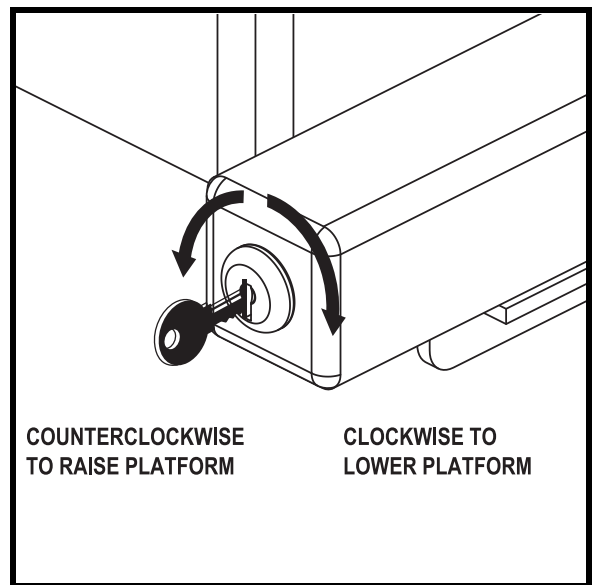

Figure 6. Key Switch Operation
5. Insert the key into the key switch (see figure 6) and turn it clockwise to lower the T-bar to its lowest extension.
2. Turn and hold the key clockwise to lower the lift platform. **See figure 6.** Release the key as soon as the lift platform touches the ground.
6. Turn and hold the key counterclockwise to raise the lift. **See figure 6.** Continue to raise the lift until the mobility device floorboard makes firm contact with the lock-down arm, then release the key.